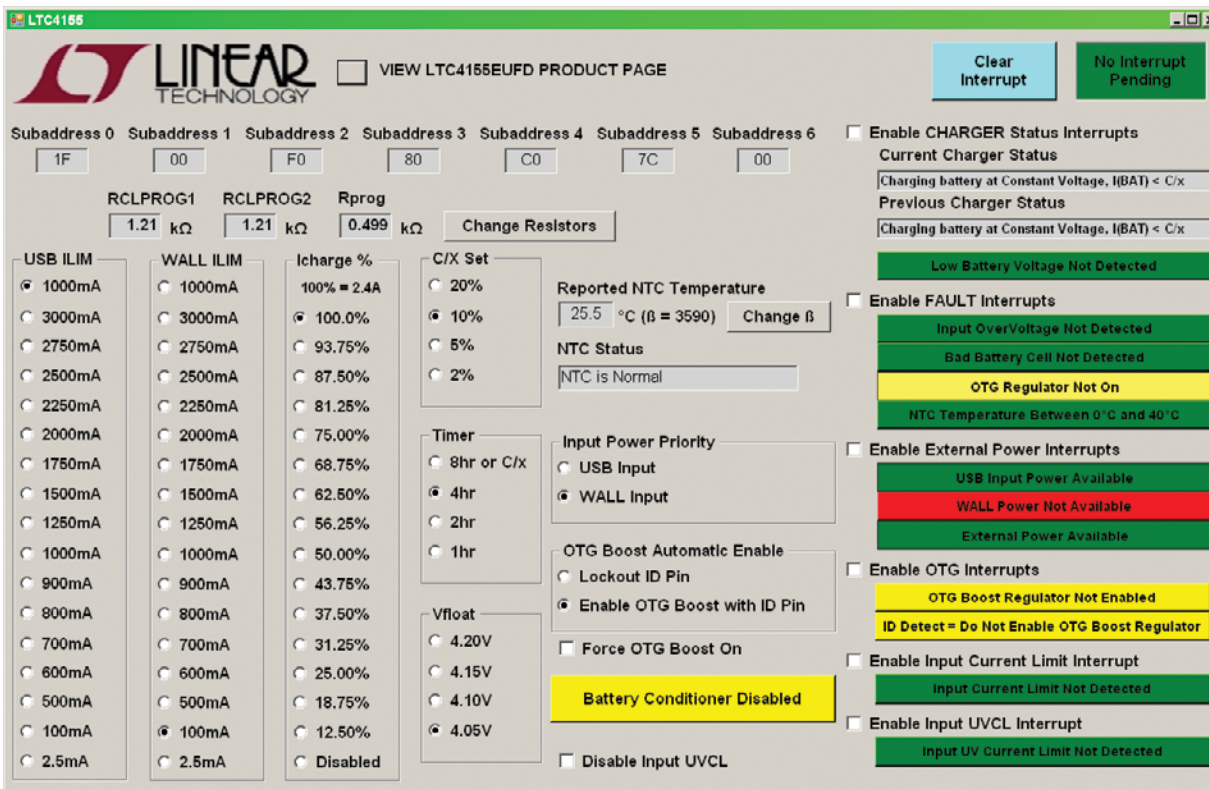
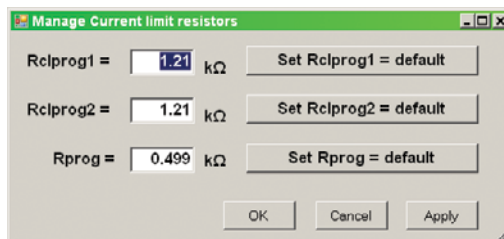
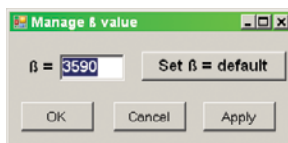

Figure 3. LTC4155 Main Form
Figure 4. Manage Current Limit Resistors Form
Figure 5. Manage  $\beta$  Value Form
2. Start the Linear Technology QuickEval™ program. Download and install the latest version of the QuickEval program from the following weblink: <http://www.linear.com/designtools/software/>. This program should automatically detect the presence of the LTC4155EUFd demo board (DC1674A-A) and activate the appropriate GUI, as seen in Figure 3.
The DC1674A-A GUI is composed of three forms, the LTC4155 form (Figure 3) that is brought up by the QuickEval program, the Manage Current Limit Resistors form (Figure 4), that is brought up by pressing the “Change Resistors” button on the LTC4155 form, and the Manage  $\beta$  Value form (Figure 5) that is brought up by pressing the “Change  $\beta$ ” button on the LTC4155 form.